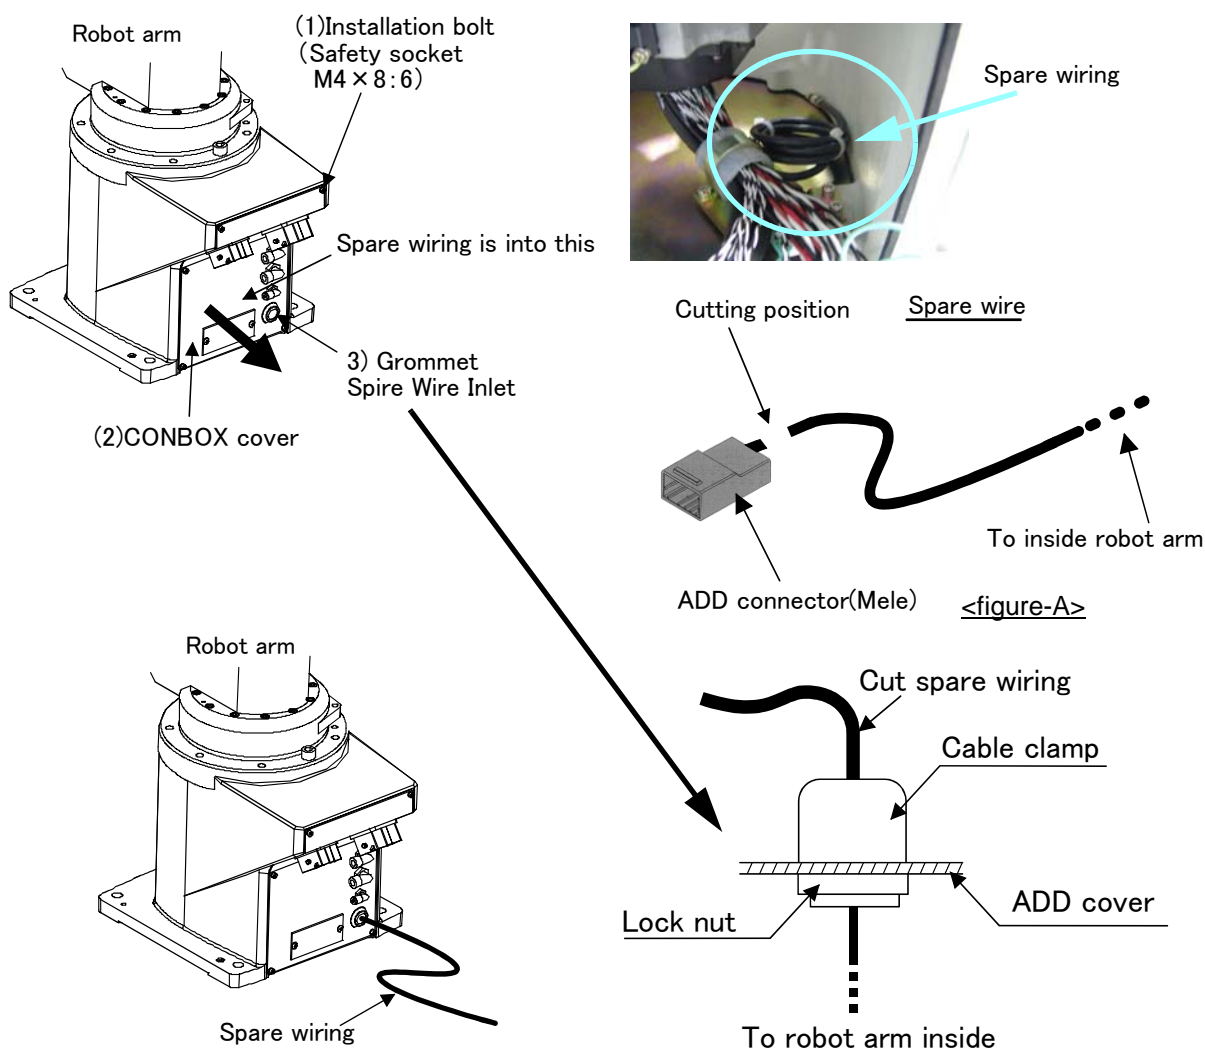

Fig.2-9 : Pull out spare wiring(Base area)
- 5) Cut spare wiring near the connector (from the connector end to the about 10-20mm. Refer to figure-A in Fig. 2-9)
- 10) Install CONBOX cover(2) as before. Apply the screw lock to installation bolt (1), fix it with torque (4.1Nm to 4.9Nm). (Recommendation screw lock: Lock tightness 242 (Henkel Japan maker:, Inc.) Be careful not to damage the seal material of the shape of the sponge pasting on "A section" If it damages, there is a possibility that protection specification may fall. Also be careful not to insert the cable